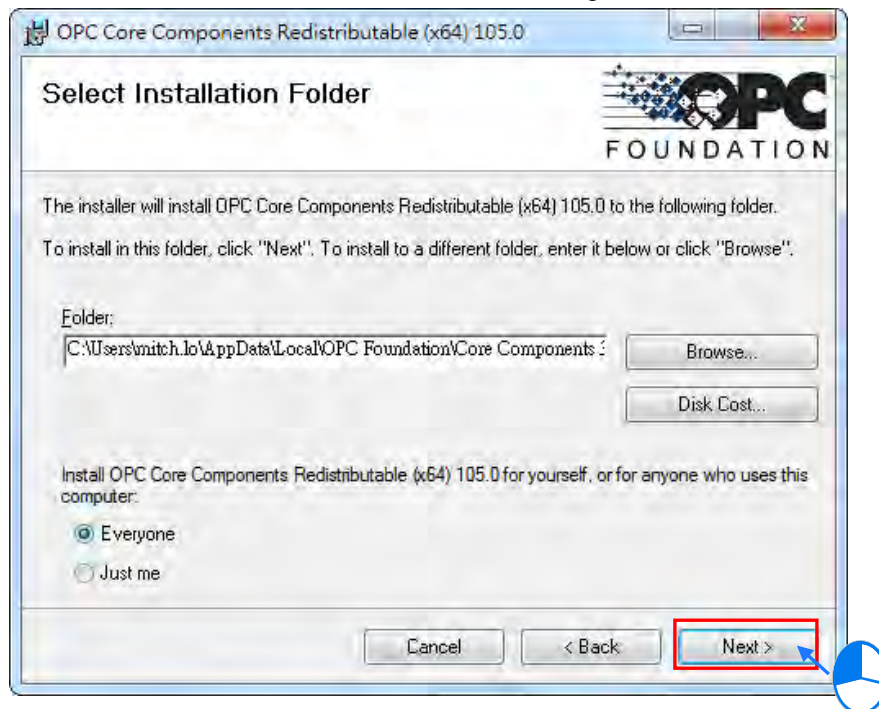

Figure 1-7 Select Installation Folder
- (6) Select the installation folder or use the default and then select the authority option, **Everyone** or **Just me**. After that click **Next** as shown in figure 1-7.